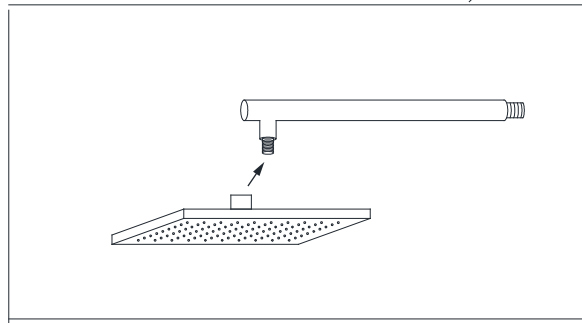

Fig 3
3. Assemble the **Shower Head (#10)** to the **Shower Arm (#11)**, then install that assembly to the **Shower Panel Body (#01)** according to the diagram. **(Fig 3)**